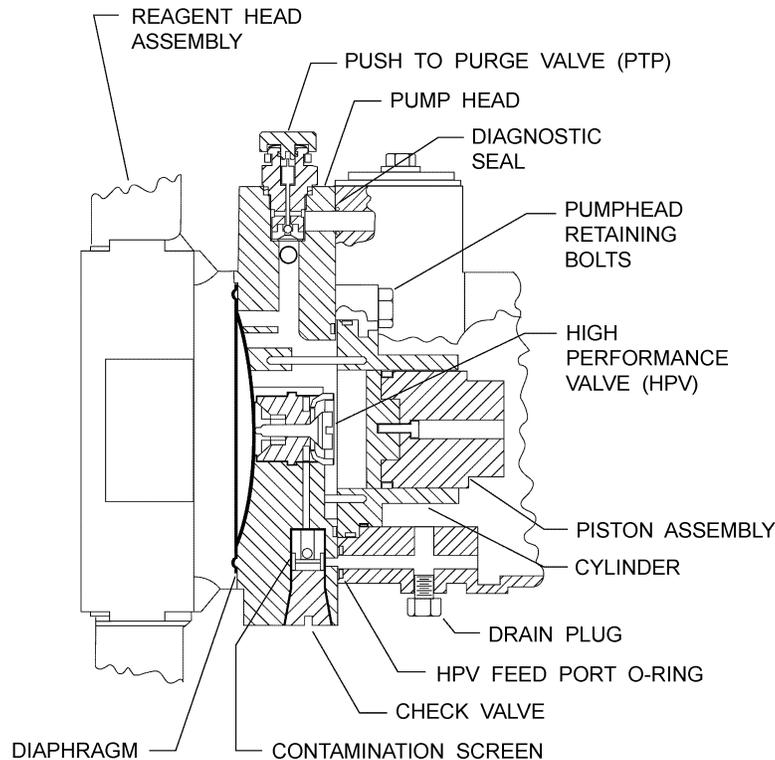
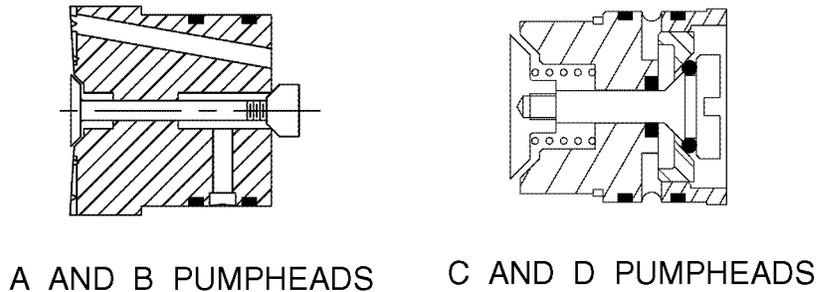

Figure 15
Figure 17
PULSAR pumps utilize two styles of High Performance Valves (refer to **Figure 17**) dependent on the pump head size. Although different in appearance they function identically. The valves are factory preset and require no maintenance provided the hydraulic oil remains clean. The check valve in series with the HPV includes a screen to trap contaminants (refer to **Figure 15**) and should be removed and cleaned with each change of the hydraulic oil as indicated below. A clogged filter screen will impede the operation of the HPV, and can lead to diaphragm damage. Should the HPV require removal for cleaning or replacement, follow the procedure appropriate to the valve style. If a diaphragm has failed, and chemical has contaminated the pump head assembly, both the HPV and the HPV check should be removed and thoroughly cleaned.
**Use the following procedure to remove and clean the Check Valve screen (refer to *Figure 15*) It is easiest to perform this process during an oil change:**